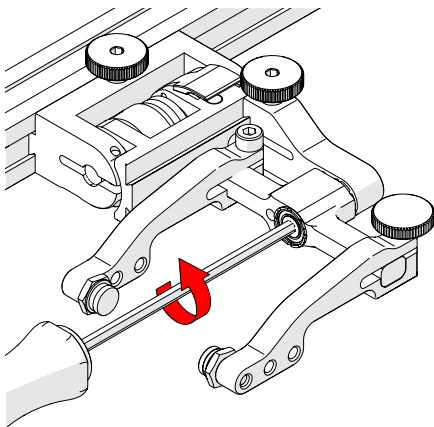

Fig. 58 - Unscrew yoke pivot screw
1. Unscrew the yoke from the swing arm (Fig. 58).